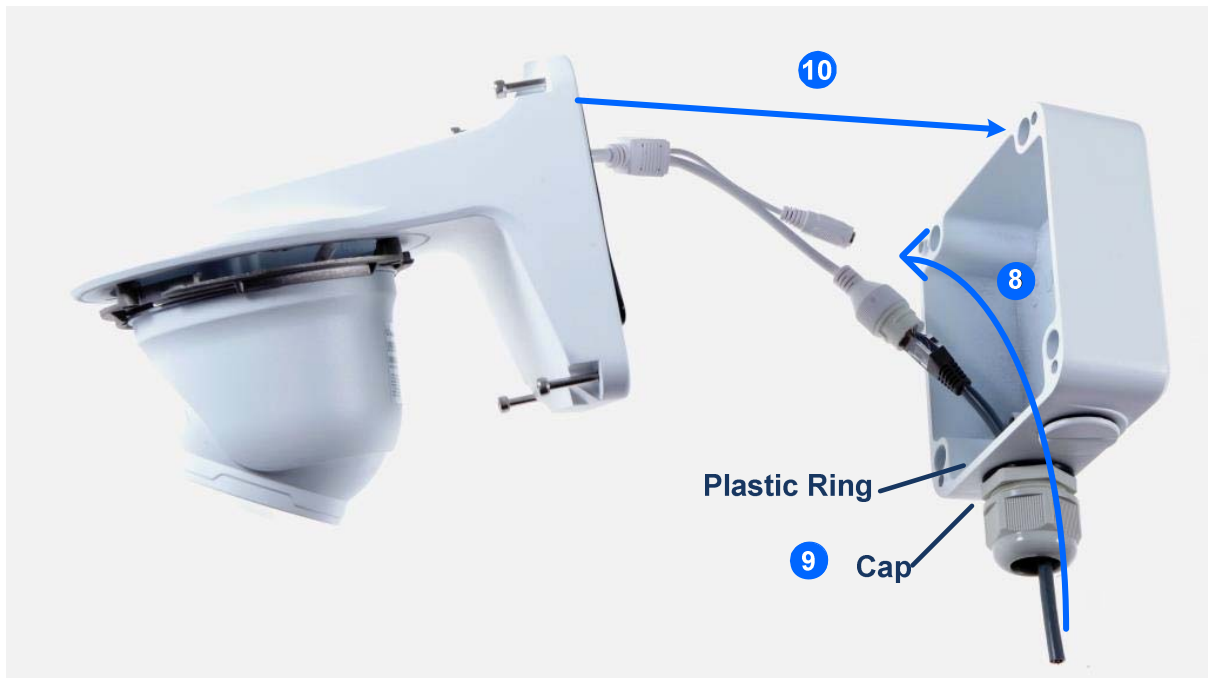

Figure 1-26
8. Thread the Ethernet cable through the PG21 conduit connector and the power box as shown in No. 8, *Figure 1-26*. Then connect the cable to the camera. To waterproof the cable, see *1.6 Waterproofing the Cable*.
9. Rotate the plastic ring to secure the conduit connector to the power box. Screw in the cap as shown in No. 9, *Figure 1-26*.
10. Screw the wall mount bracket to the power box as shown in No. 10, *Figure 1-26*.